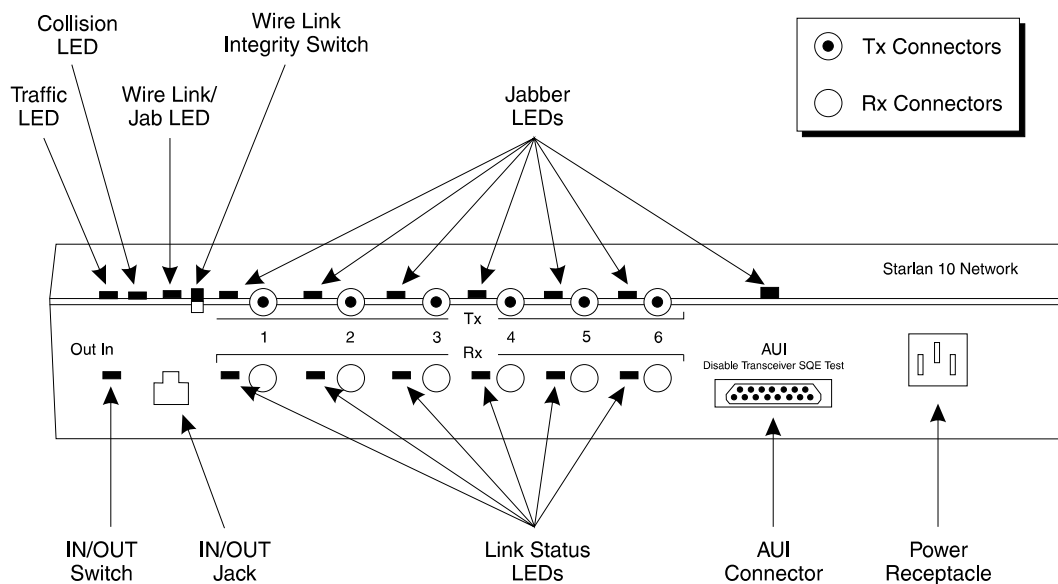

Figure D-50: StarLAN 10 Network Fiber Hub Unit
To connect the StarLAN 10 Network Fiber Hub unit to the network, do the following (see Figure D-50):
3. Plug one end of the fiber optic cable into the Tx (transmit) and Rx (receive) connectors on the front of the network fiber hub unit (see Figure D-50).